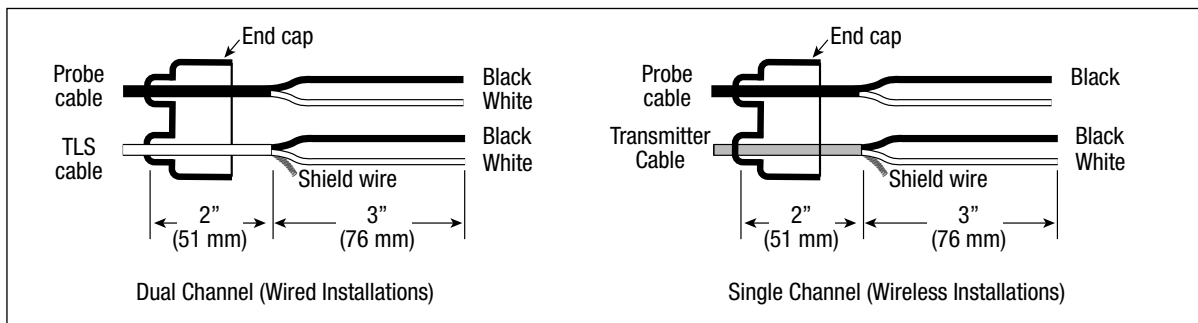

Figure 9. Splice Length Dimensions
1. Get the non-ground wire end cap from the encapsulation kit and cut off enough of the two end cap nipples to accommodate each cable's diameter (see Figure 9)). Keep the hole sizes to a minimum. Insert about 5 inches (127 mm) of each cable through the end cap openings. Remove 3 inches (76 mm) of the outer jacket from each cable. Trim the insulation from the conductors.